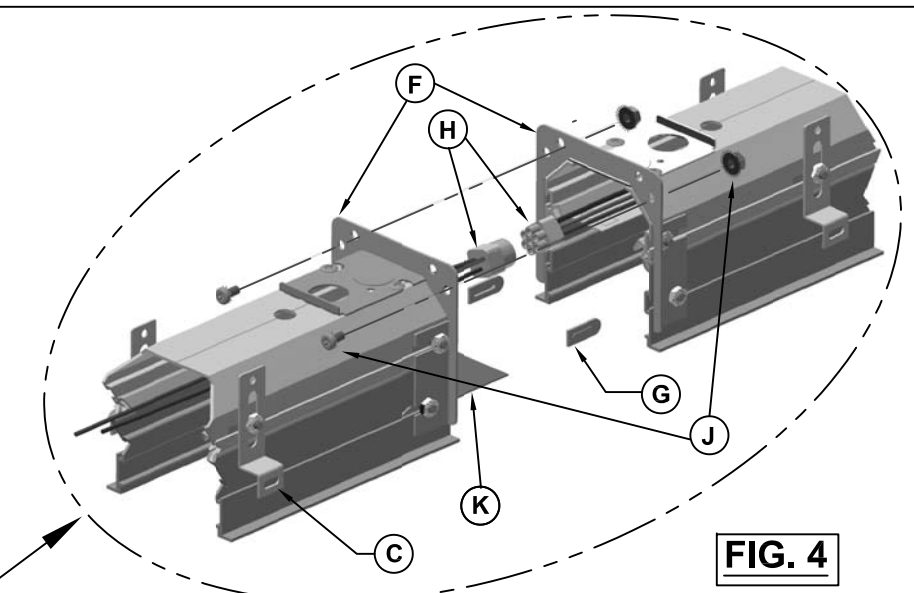

FIG. 4
POSITION THE NEXT FIXTURE SUCH THAT THE ALIGNMENT TABS (G) (REF. FIG. 4) FIT INTO THE FIRST FIXTURE. MAKE CONNECTION OF THE WIRE HARNESS AND PUSH EXCESS WIRE BACK INTO FIXTURE. MAKE SURE THAT WIRE IS NOT PINCHED BETWEEN JOINT AND SLIDE FIXTURES TOGETHER. INSTALL NUTS AND BOLTS (J) ONTO CROSS BRACES (F) AND TIGHTEN SECURELY PULLING THE TWO FIXTURES TIGHTLY TOGETHER. ADJUST SAFETY BRACKETS (C) INTO POSITION FOR ATTACHMENT TO "TEE" AT A LATER TIME.